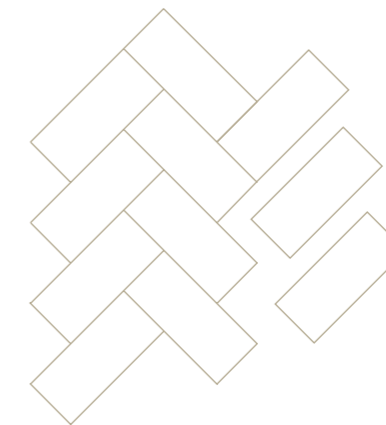

Figure 3: Pushing the planks closely together.
3. Glue down the next row. Set the planks into the glue as close to the adjacent planks as possible, pushing the planks firmly down and against the adjacent planks to prevent glue from getting into the tongue/groove joint. See figure 3.